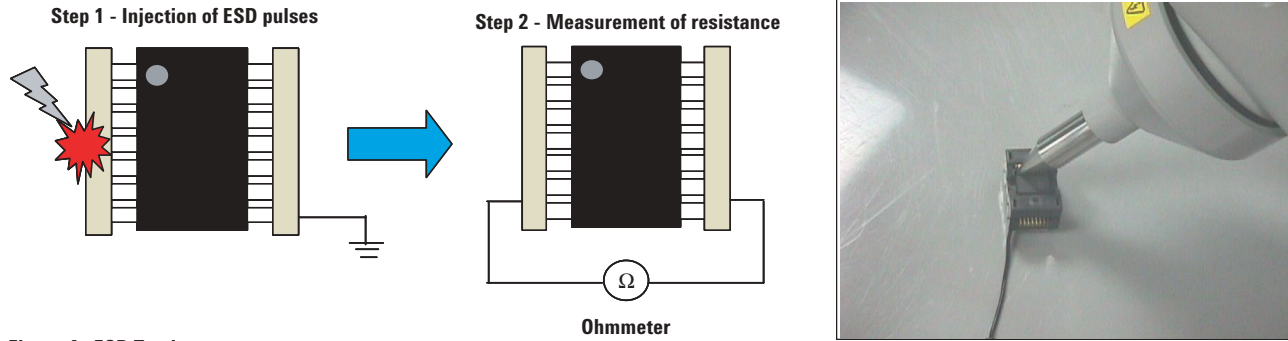

Figure 4. ESD Testing
ESD test was carried out recently to assess and evaluate the performance of optical and magnetic technologies. The test evaluated the impact of ESD pulses applied onto the dielectric materials of the two different technologies. Abiding by the testing requirements of IEC-6100-4-2 standard, five units of randomly selected samples of Competitor (A) parts undergoes ESD pulses injected into their input side while all the pins were shorted together on both the input and output sides respectively as shown in Figure 4, step 1. The resistance between the input and the output was then measured (Figure 4, step 2) and the results were tabulated on table 2.